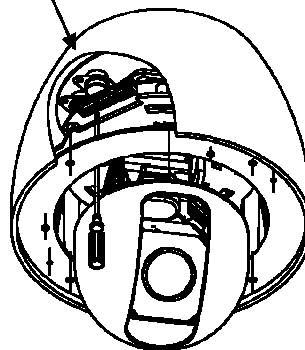

Fig. 1
Note: Protocol and ID code(fig. 1)
- ① Disassemble the outdoor flange and dome housing with wrench. Decide the protocol and ID code (fig.1), and mount the dome housing as following.
- ② Fix the wall bracket and connect it with outdoor flange with screws and wrench. Tighten the screws as following.
- ③ Connect all the cables as required.
- ④ Mount the Safety Hanging-Lock of the outdoor flange on the outdoor speed dome. Aim the guide pin of mounting base at the longest curved chute of outdoor flange. Fix the speed dome on the outdoor flange. Tighten the screw as following.
- ① Disassemble the Outdoor Flange and dome housing with wrench. Decide the protocol and ID code(fig.1) and mount the dome housing as following.
- ② Mount the power box on a solid ceiling. Mount the wall bracket on the power box.
- ③ Fix the wall bracket to the outdoor flange with screws and wrench. Tighten the screws as following.
- ④ Connect all the cables as required.
- ⑤ Mount the Safety Hanging-Lock of the outdoor flange on the outdoor speed dome. Aim the guide pin of mounting base at the longest curved chute of outdoor flange. Fix the speed dome on the outdoor flange. Tighten the screw as following.
- ① Disassemble the Outdoor Flange and dome housing with wrench. Decide the protocol and ID code(fig.1), and mount the dome housing as following.
- ② Fix the ceiling bracket and connect it with outdoor flange with screws and wrench. Tighten the screws as following.
- ④ Mount the Safety Hanging- Lock of the outdoor flange on the outdoor speed dome. Aim the guide pin of mounting base at the longest curved chute of outdoor flange. Fix the speed dome on the outdoor flange. Tighten the screw as following.
- ① Disassemble the outdoor flange and dome housing with wrench. Decide the protocol and ID code(fig.1), and mount the dome housing as following.
- ② Fix the pole bracket and mount it to the wall bracket with screws. Mount the outdoor flange to the wall bracket. Tighten the screws as following.
- ④ Mount the Safety Hanging-Lock of the outdoor flange on the outdoor speed dome. Aim the guide pin of mounting base at the longest curved chute of the outdoor flange. Fix the speed dome on the outdoor flange. Tighten the screw as following.
- ② Fix the corner bracket and connect it with outdoor flange with screws and wrench. Tighten the screws as following.